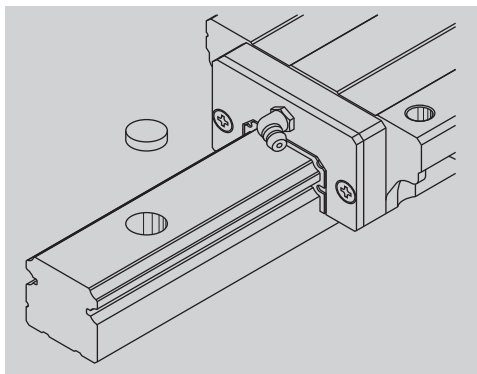

Fig. 6.4
- After the rail is mounted to the machine base, a cap is used to cover the bolt hole to prevent foreign matters from clogging up the hole or from entering into the slide (Fig. 6.4).